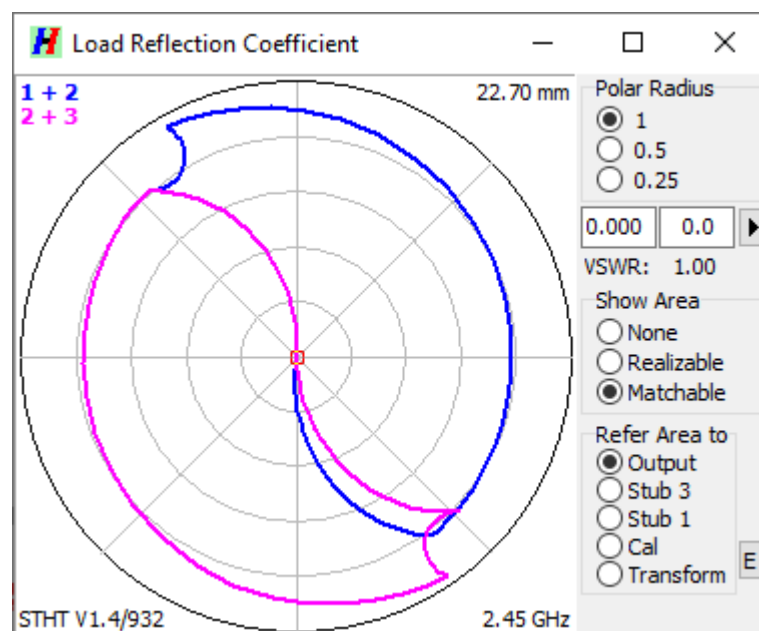

Fig. 3. **Load Reflection Coefficient** window displaying the matchable area.
3. Set the DUT type to **Chart** and click Apply button in the **Homer Model** window. The **Load Reflection Coefficient** chart opens (Fig. 3).
The worst case occurs for load reflection coefficients on the border of the matchable area (Fig. 3) or beyond because at least one of the stubs must move to the maximum insertion depth  $h_{\max}$ , resulting in the longest possible travel time
where  $M_{\max}$  is the maximum load reflection coefficient magnitude matchable irrespective of phase, i.e., the radius of the largest circle that completely fits into the matchable area (in Fig. 3 about 0.78). For  $M > M_{\max}$ , use  $h = h_{\max}$ .